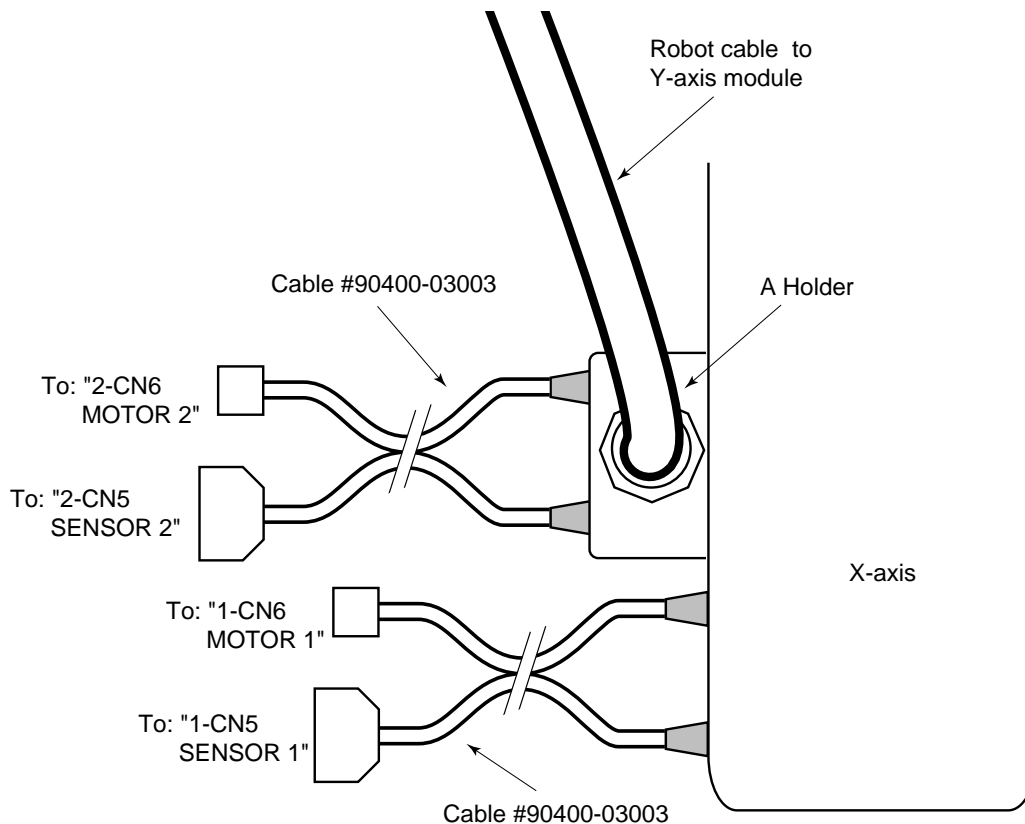

Figure 4-55. Connecting to an EXA or EXC Controller
- a. Connect the two barrel ends of the cable to the X-axis module as shown in Figure 4-55. These connectors have different pin sizes and cannot be installed incorrectly. The other ends connect to the controller connections marked "1-CN6 MOTOR 1" and "1-CN5 SENSOR 1".
- c. Attach the A holder end of the robot cable to the side of the X-axis H module as shown in Figure 4-55 (refer to Section 4.3 for holder mounting).
- e. Connect the two barrel ends of the cable to the Y-axis module as shown in Figure 4-55. These connectors have different pin sizes and cannot be installed incorrectly. The other ends connect to the controller connections marked "2-CN6 MOTOR 2" and "2-CN5 SENSOR 2".